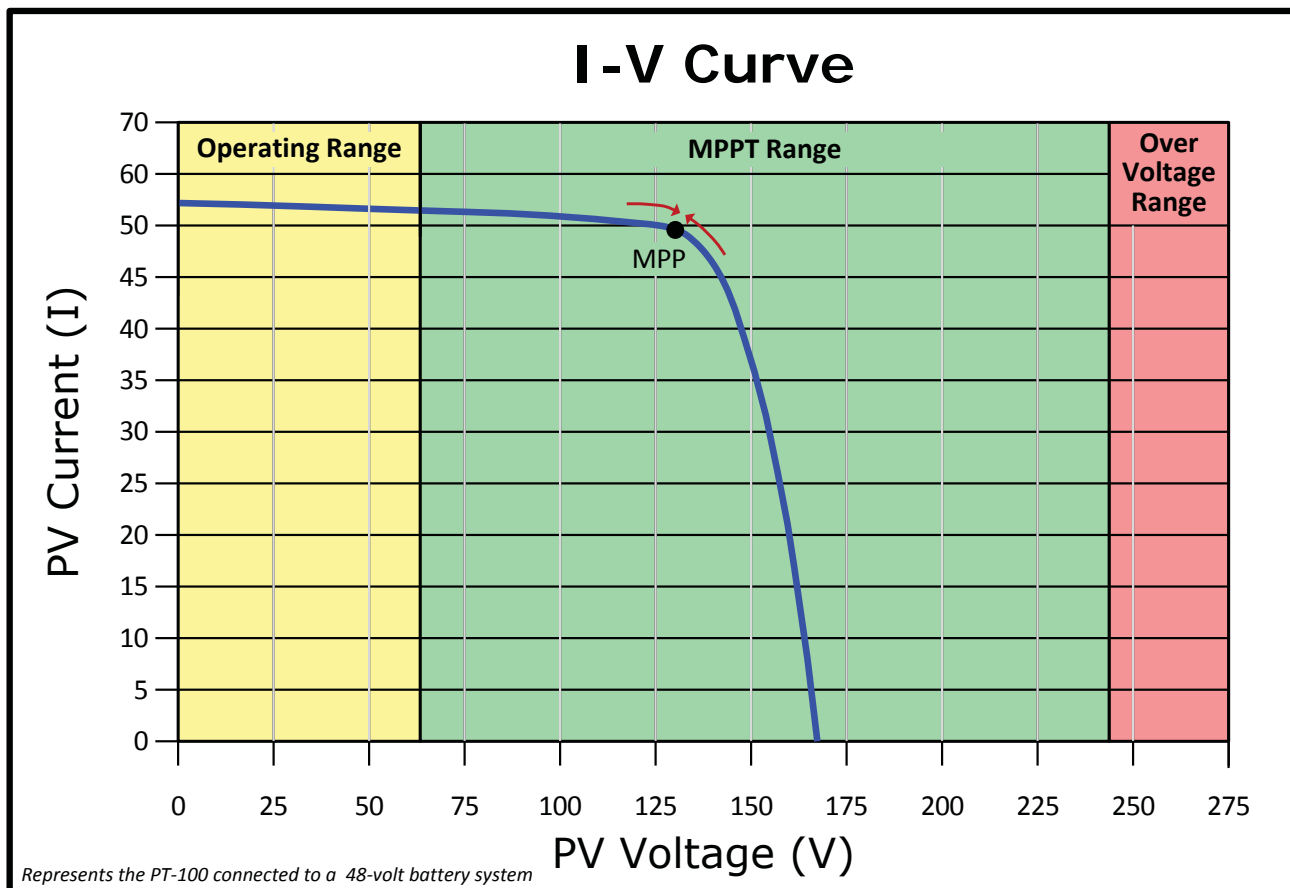

Figure 4-8, I-V Curve
The purpose of MPPT is find the point of the PV array's operating curve (shown in Figure 4-8) where the current (I) and voltage (V) are optimized at the same time—referred to as the Maximum Power Point (MPP). The MPPT algorithm in the PT-100 is designed to sample the output of the PV array and adjust the load it presents to the PV array until the voltage and current approaches the MPP. The sampling is continuous in case the PV maximum output power changes because of environmental conditions, such as panel shading, cloud cover, and panel temperature.